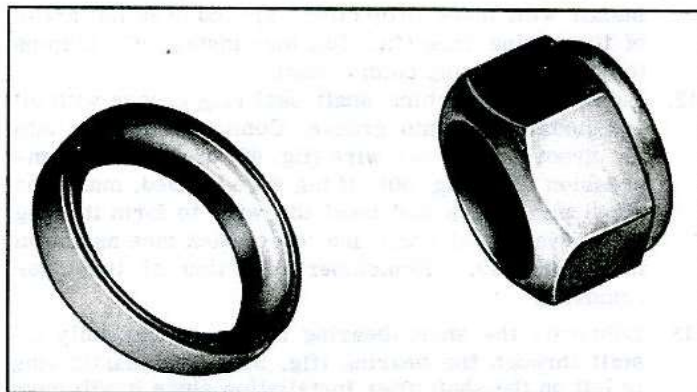

Fig. 54—Special Washer and Nut
17. Remove assembly from press and position the special impeller washer (fig. 54) with dished side upward and install (LEFT HAND THREADS) the self-locking nut on the turbine shaft. Use a folded cloth to hold the turbine wheel and torque the nut to 80 inch lbs.